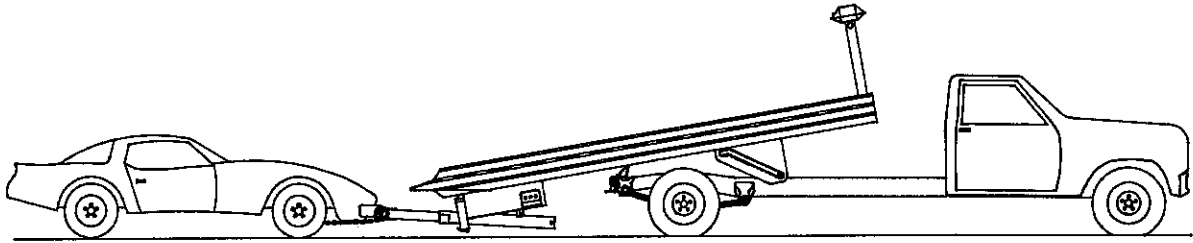

Figure 6-4.8
- 6-4.8 Attach "J" hook chains or other appropriate securing chains the underside of the vehicle being towed. Attach the other end of the chain to the chain hooks at each end of the tow-bar cross tube. (See fig. 6-4.8)